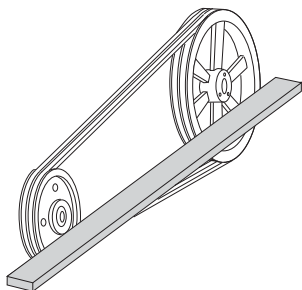

Figure 27 — Drive Alignment
2. Check the tension by measuring the deflection in the belt, see Figure 27.